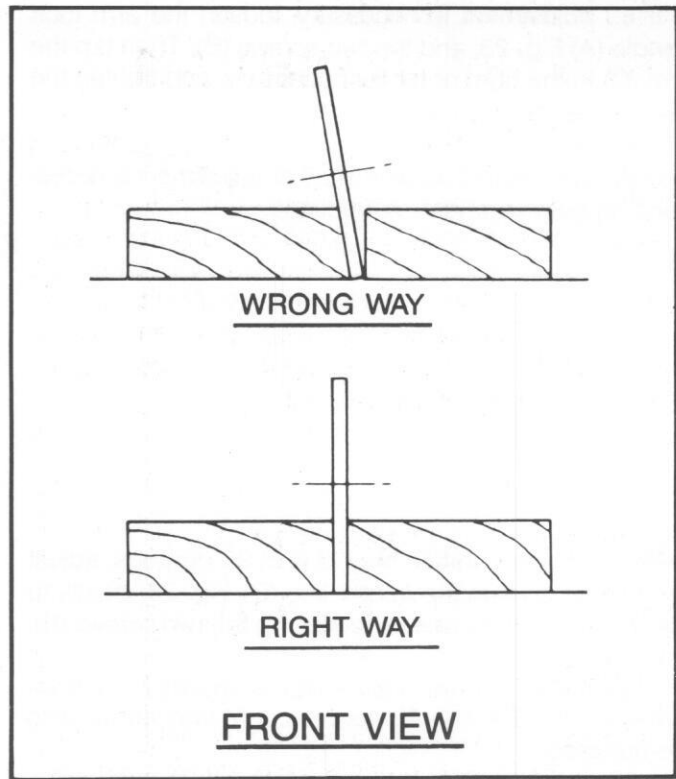
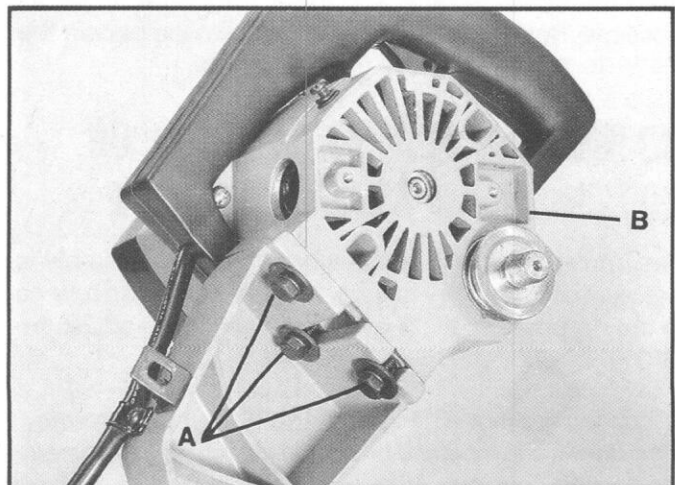

Fig. 26
Fig. 28
2. Refer to Fig. 26, and also observe the cut you have just made.
3. If a condition exists similar to the top drawing shown in Fig. 26, the blade is not at right angle to the pivot shaft and an adjustment is necessary, as follows:
8. To adjust, loosen the three screws (A) Fig. 28, and shift the cuttinghead (B). Then tighten the three screws (A). Re-assemble the saw blade and re-check until you are certain the saw blade is not "heeling" and is entering the work as shown in the bottom drawing of Fig. 26.